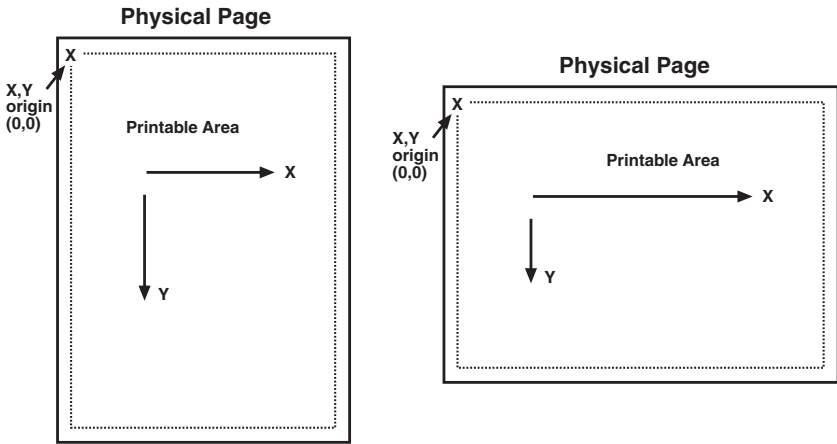

Figure 7-8. X,Y-Coordinate System on the Page.
1. All x,y values (start, end, center, increment) are measured in n/300 of an inch. The origin of the x,y-coordinate system is the top left-hand corner of the printable area of the page (see Figure 7-8).
2. To determine the printable area of the paper, we printed a box using 0;0 as the x,y starting coordinates. This was done by typing `-GB1;0;0;300;300;50` on the screen and sending it to the printer. The top left corner of the printed box marks the top left corner of the printable area of the page. For reference, we drew the printable area on a blank sheet of paper. All references to distances are made in respect to the printable page, not the actual physical page. Refer to Figure 7-8.